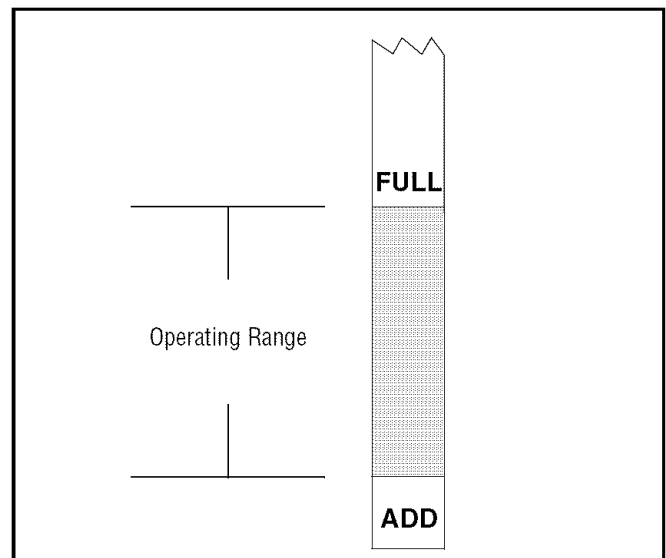

Figure 14
- Wipe the dipstick clean before pushing it all the way back into the oil fill tube. Withdraw the dipstick to check the oil level. Refer to Figure 14.
- Fill the crankcase until the oil level reaches the full (F) mark on the dipstick. Refer to Figure 14. Refer to the viscosity oil chart earlier in this section for information regarding the proper type of oil to add to the crankcase.
- **Slowly** pour oil into the fill tube. Fill the crankcase until the oil level reaches the full (F) mark on the dipstick (Refer to Figure 14).